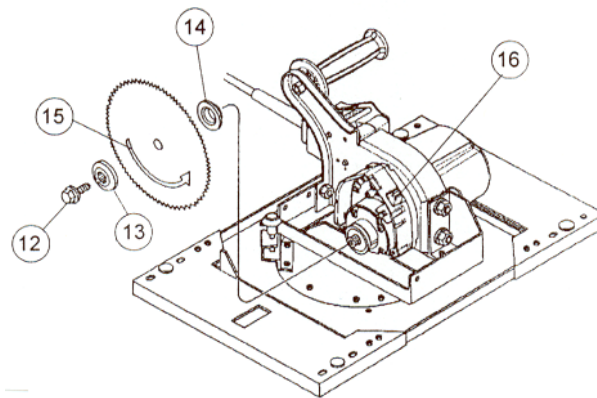

Figure 19: Installing a Saw Blade (H Series Shown)
3. To keep the spindle from turning while you loosen the arbor bolt (12) push the spindle lock (16) located on the under side of the saw motor. Then tighten the carriage lock.
4. Use the allen wrench provided with the saw to loosen and remove the bolt (Figure 19) counterclockwise.
5. Remove the outer blade flange (13), blade (15), and inner blade flange (14).